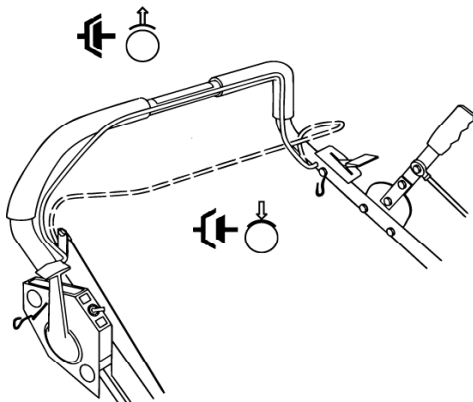

Fig. 7
**PROPULSION:** VQ self-propelled vacuums are equipped with 5 forward gears, neutral and reverse. With the engine running, the bail in released position and brake in on position, select desired drive gear. Pull bail against handle to engage drive (see figure 7). Smoothly engage the bail. Parking brake engages when the bail is released. To freewheel, set transmission control in neutral and pull back on bail. Use good judgment when operating the self-propelled drive. Fifth gear is faster than walking speed and should normally be used only for moving quickly from place-to-place. Using neutral, on level terrain is advisable when maneuvering in tight areas. This increases operator control, and can prevent bumping into nearby objects. Do not force-shift gears of transmission. To assist gear meshing, it may be necessary to partially engage bail while shifting. To stop machine, release operator's bail (this engages the parking brake). Do not shift the transmission while unit is moving. Internal damage to transmission can result
With operator's bail released, pull shift lever back and depress wire stop (item 90) to continue to the reverse position. Then smoothly pull operator's bail against handle. Release bail to stop (see fig 7).